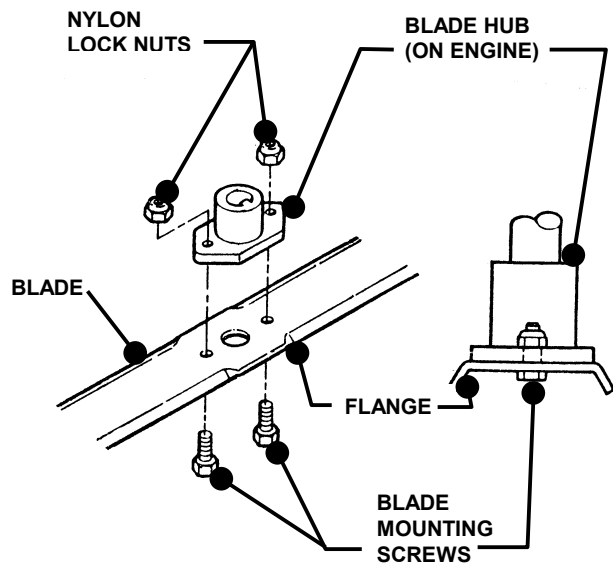

FIGURE 4.2
3. Remove blade. See Figure 4.2.
- Reinstall blade. See Figures 4.2 & 4.3. Check torque of blade retaining cap screw. Recommended torque should be 30 to 40 ft. lbs.